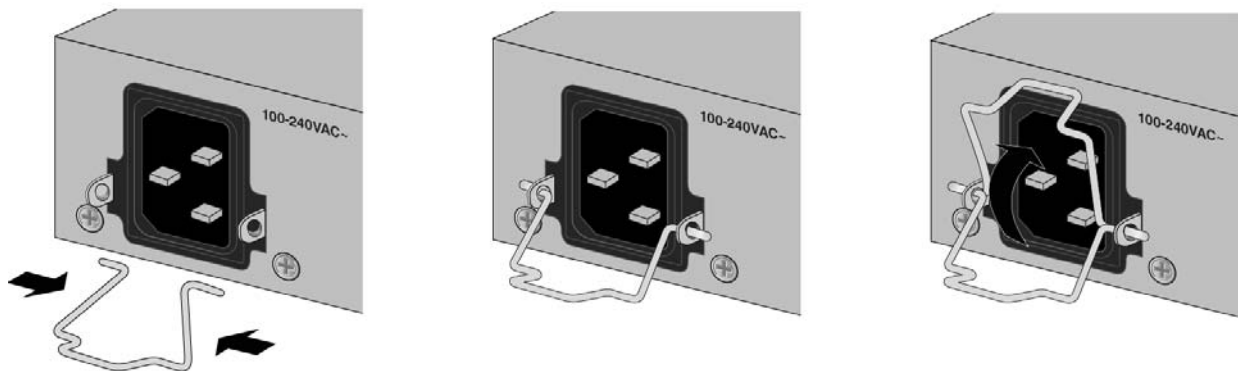

Figure 40. Installing the Power Cord Retaining Clip
1. Install the power cord retaining clip on the AC power connector on the rear panel of the switch. Refer to Figure 40.